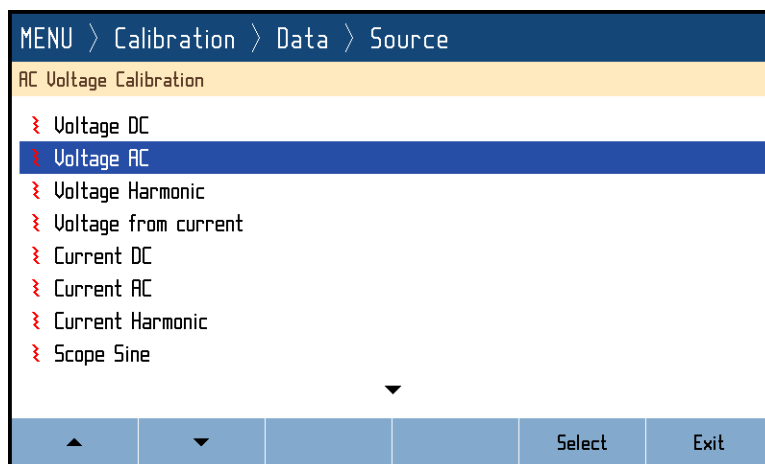

Figure 42 Calibration menu with out-of-date calibration data
- Values denoted in % or without any unit (mostly used in source functions with continuous ranges like V_{dc} function in fig. 42 above) show relative position within selected range. Such points can be adjusted by changing the value so that the standard readout gets as close to nominal value as possible.